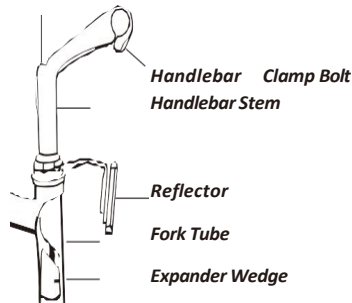

Fig.6
Step 3: Handlebar & Handlebar Stem Assembly(REFER TO FIG. 6 AND 7)
- Since your cycle may be fitted with an adjustable, a standard stem or an A-head stem(REFER TO FIG.6), you must always check that all the bolts are tight before cycling. Based on the situation of standard handlebar stem, please follow the instruction below: